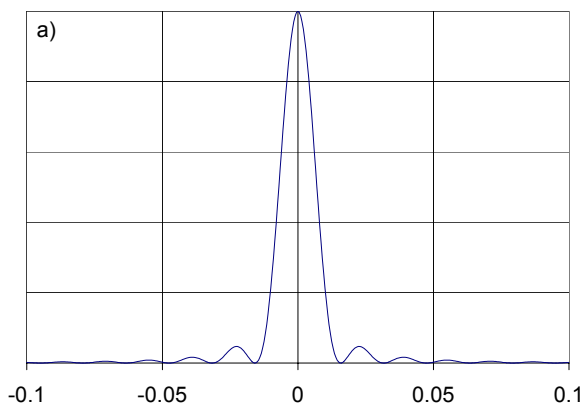

Fig. 10. Intensity distribution  $I$  for a single slit.
4. Observe the diffraction pattern on the screen for the smallest slit. You should observe something like shown in Fig. 10, which shows intensity versus position.
**Question 4-1:** What do you observe? Approximately how wide are the light bands? Can you explain this in terms of Fig. 10?